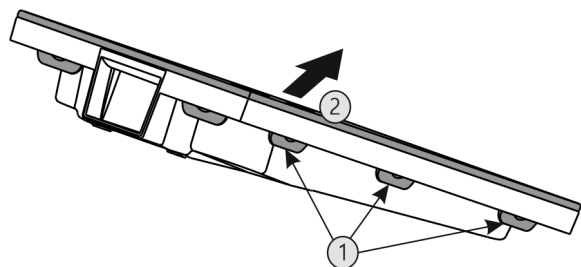

Fig. 48
- ▶ Press all lugs Fig. 48 (1) in succession and remove the lid Fig. 48 (2).